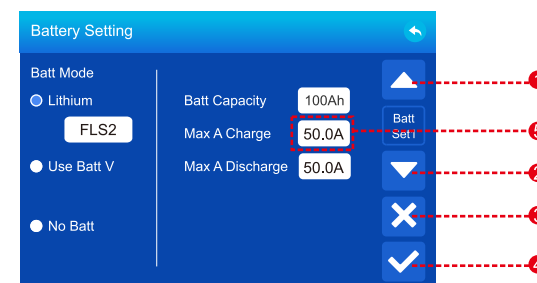

Figure 5.2-1 Battery Setting
Button Instructions: As shown in Figure 5.2-1. Press the Up key (or click ①) can go to the previous setting page. Press the Down key (or click ②) can go to the next setting page. If want to set The MAX Charge current number, click ⑤ then press the Up/Down key to Add/Subtract the number, press the Enter key (or click ④) to confirm the number. Press the Esc key (or click ③) to exit setting mode.